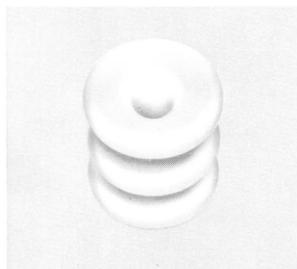

Fig. 2 - T Knob
- 1.01 This section is reissued to change Fig. 2 and 3.
- 1.04 The T knob (Fig. 2) is designed to accommodate two drop wires.